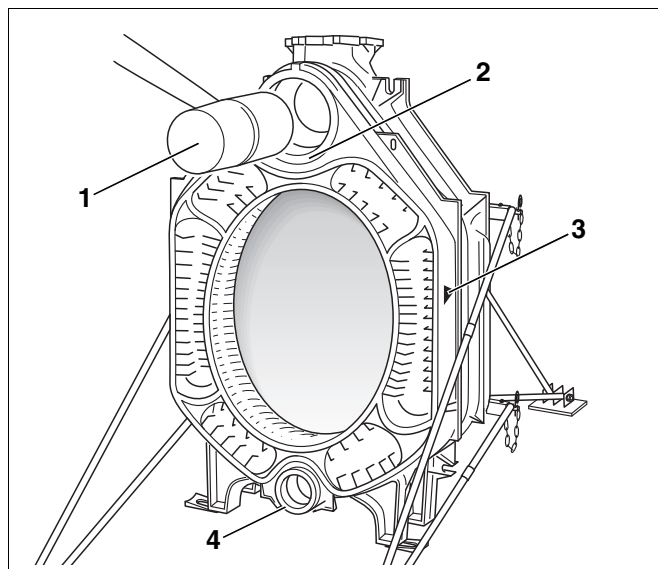

Fig. 18 Knocking the centre section into place
- ▶ Position the central section so that the upper and lower hubs (Fig. 18, [2] and [4]) fit onto the nipples in the rear section. The installation direction arrow (Fig. 18, [3]) must point towards the back.
- ▶ Drive first central section onto the rear section using a wooden or a rubber mallet (Fig. 18, [1]).